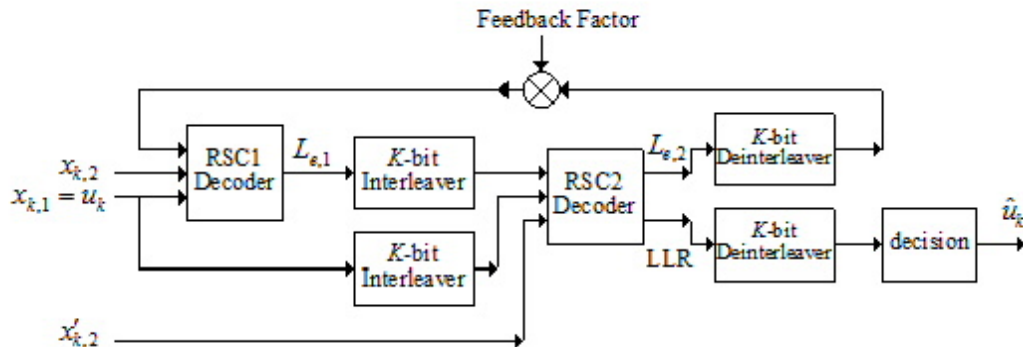

Fig.2 Iterative Turbo Decoder with PCCC
3. **Iterative Turbo Decoder Structure:** The diagram of iterative Turbo Decoder with PCCC is shown in Fig.2. It should be noted that the turbo decoder must insert zeros in the soft